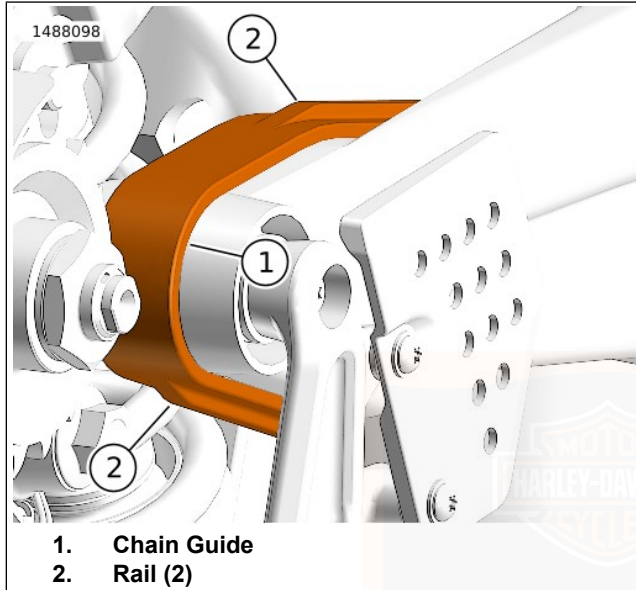

Figure 62. Chain Guide Rails
See Figure 62. Inspect chain guide (1) and rail (2) for: